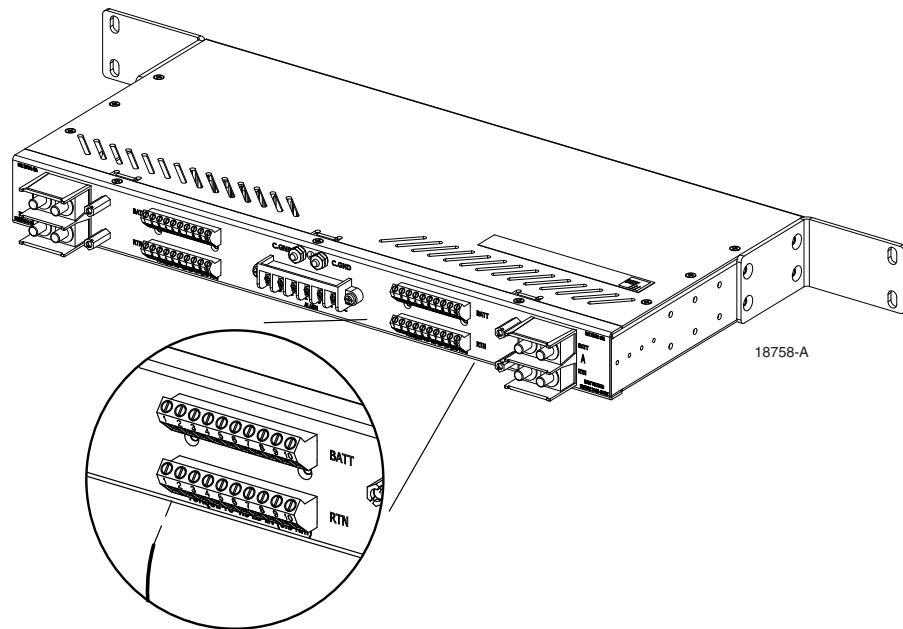

Figure 22. Set Screw Barrel Terminal Strip Power Output
- Screw-down barrier terminal strip, shown in Figure 22.
The set screw barrel terminal strip, shown in Figure 22, accepts #12 to 22 AWG wire. In selecting wire size, follow local code, referring to the ampacity guidelines provided in Appendix A of this manual. For torque specifications, refer to the installation drawing provided with the fuse panel.